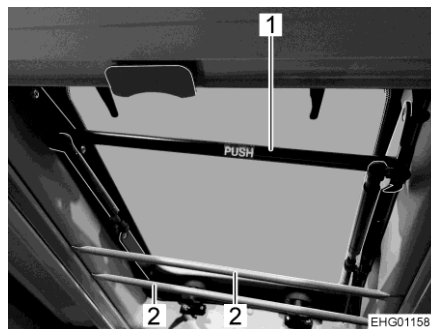

Fig. 17 Rear window (from the inside)
Two bars (Fig. 17,2) serve as fall out protection when the rear windows are open.
- Grasp the black handle bar (Fig. 17,1) in the upper area of the window and open the window with a swivelling movement outwards and upwards.
- Grasp the black handle bar (Fig. 17,1) and swivel the window back to its initial position.